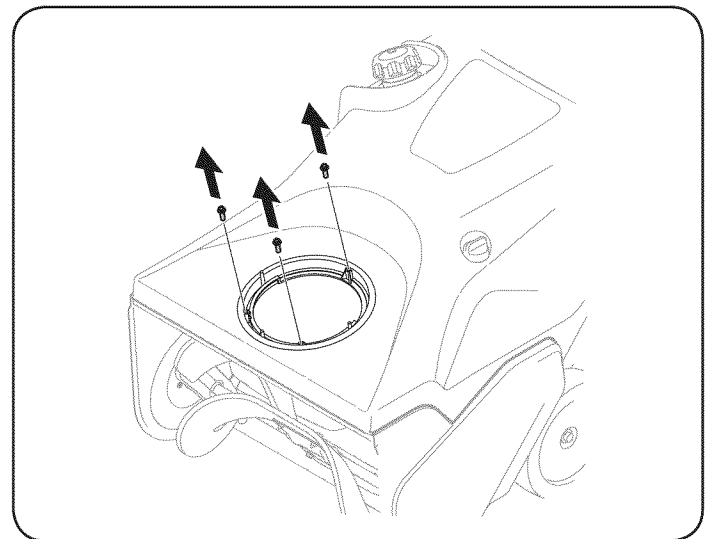

Figure 4
2. Remove the screws in the chute base. See Figure 4.